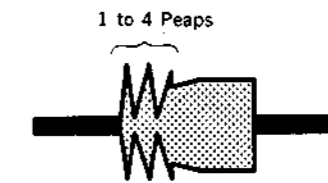

Fig. 3
(3) Check that the RF waveform at the entrance side has 1 to 4 peaks in this condition. If not, adjust as follows. (fig. 3)